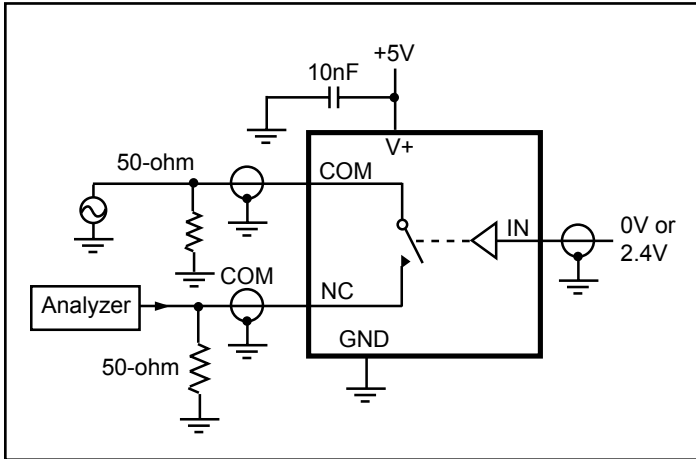

Figure 3. Off Isolation
| Off Isolation | O_{IRR} | $R_L = 50\Omega$, $C_L = 5pF$, $f = 10MHz$, see figure 3 | | | -55 | | dB |
7. Off Isolation = 20log₁₀ V_B / V_A. See Figure 3.